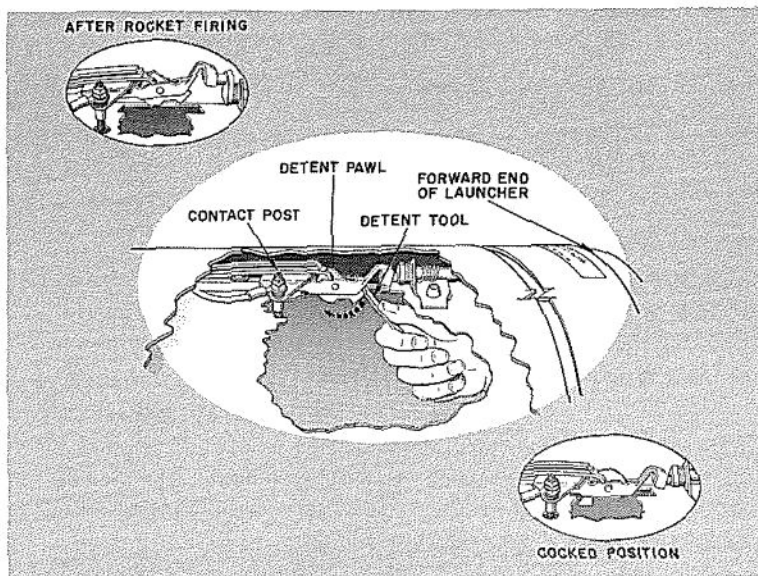

FIG. 22. Cutaway of Launcher Tube Showing Method of Detent Re-Cocking After Rocket Firing.
- b. Attach the positive lead of the voltmeter to the contact post located aft of the detent pawl (Figure 22).
2. Insert the handle portion of the detent-lift tool into the launcher tube and engage the forward edge of the detent pawl within the detent-clearance hole in the launcher tube (Figure 22).